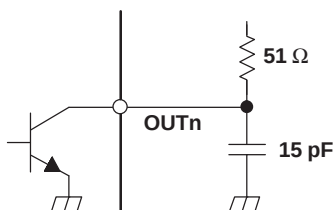
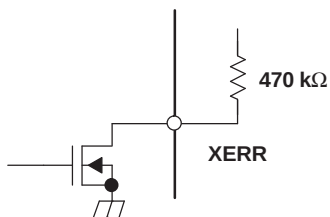

Figure 5. Test Circuit for t_{r1} , t_{f1} , t_{pd2} , t_{pd3} , t_{pd5} , t_d
Figure 6. Test Circuit for t_{pd4}
(2) See Figure 5. Defined as from 10% to 90%
(5) See Figure 5 and Figure 14
(6) See Figure 5, Figure 6, and Figure 14
(7) See Figure 5